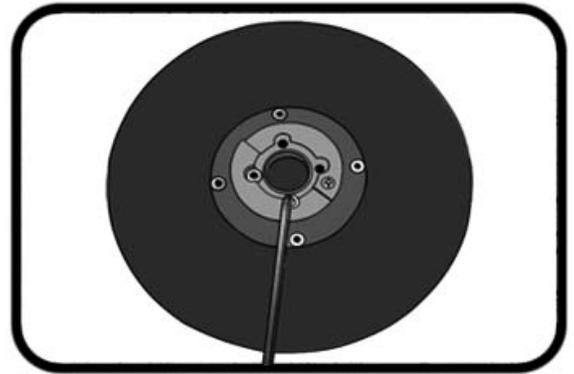

Fig. 10
**Step 9:** Use an allen wrench to remove the single dog gear from the rope reel. **(Fig. 10)**